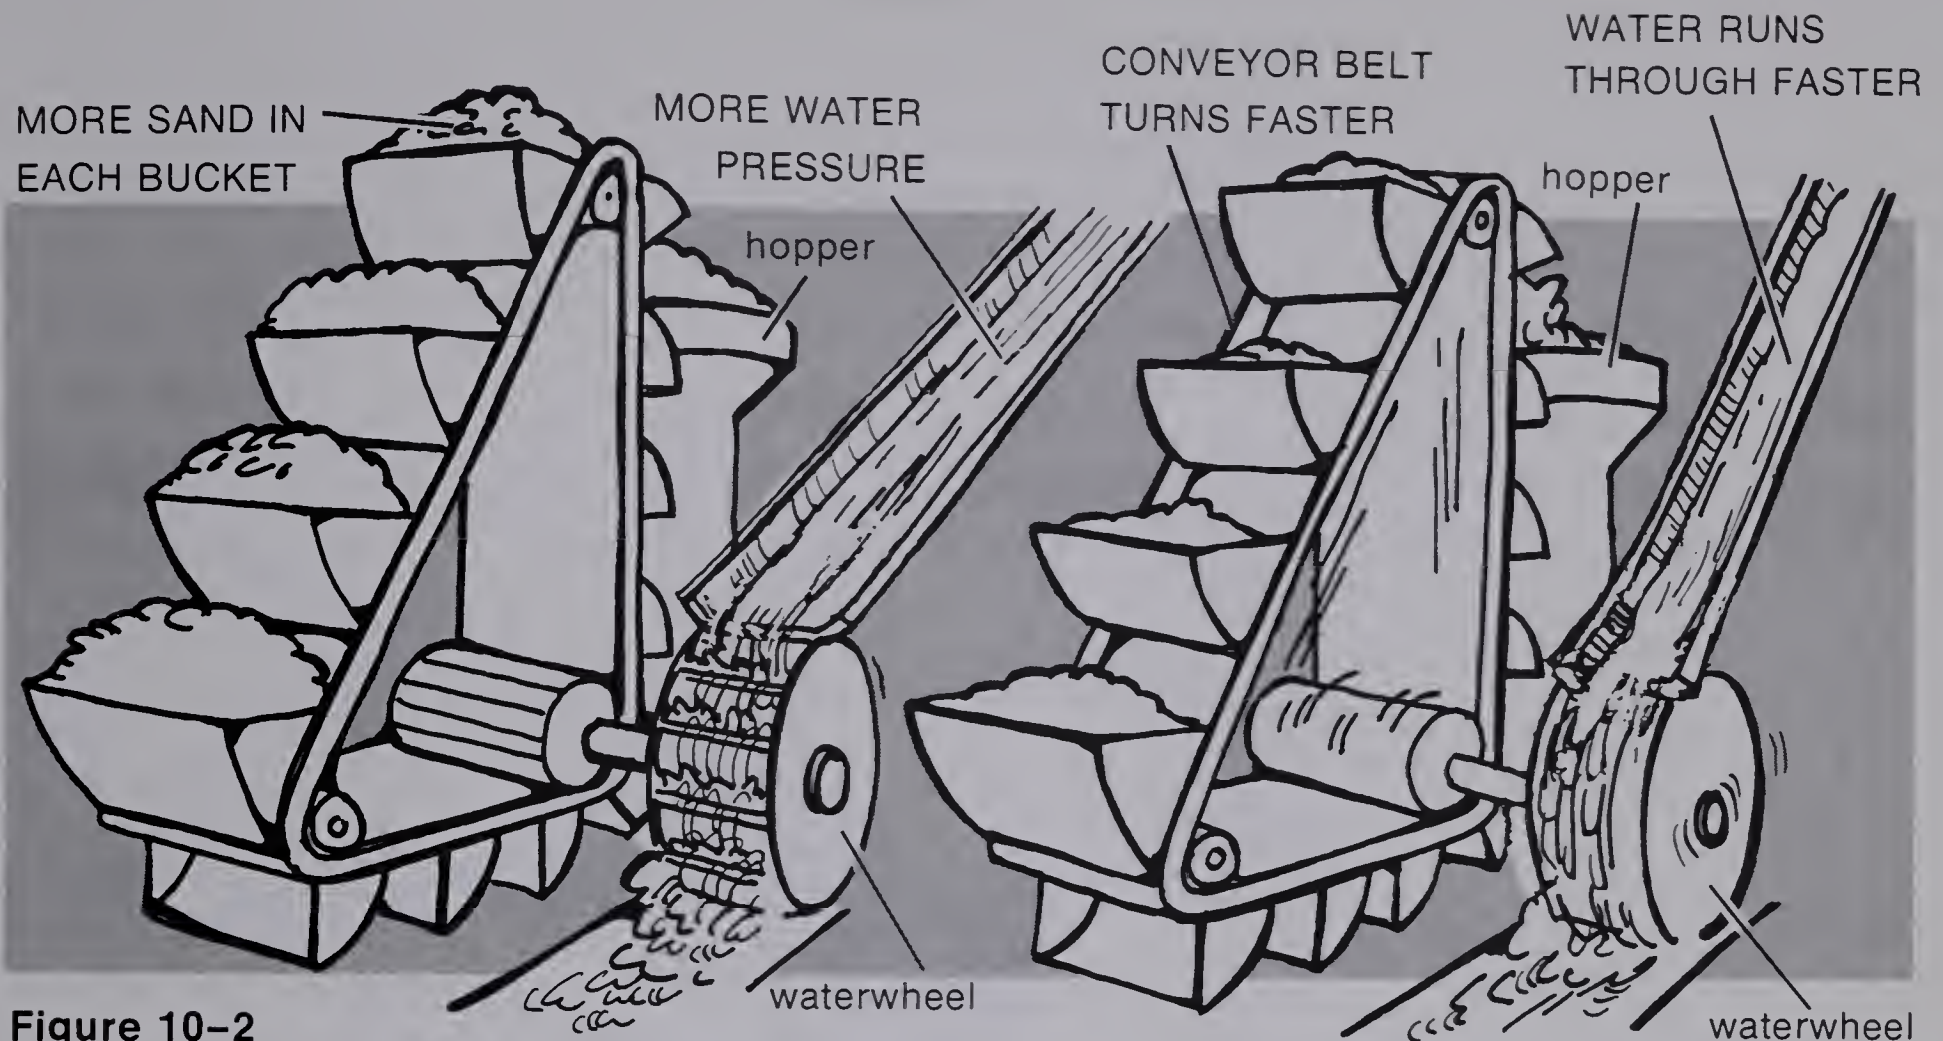

Figure 10-2
Now suppose you wanted to lift more sand each second. Figure 10-2 shows two different ways you could do that.
- 10-3. What two changes in the water supply shown in Figure 10-2 cause more sand to be lifted?
The two changes in water supply shown in Figure 10-2 can also be related to voltage and current as suggested in Core Activity 2.